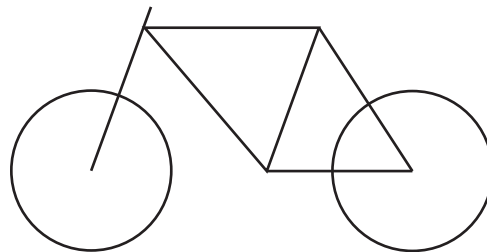

Fig. 10-2
Let’s use AutoCAD’s object snaps to create a basic drawing of the new mountain bike frame design shown in Fig. 10-2. Be sure to save your work every few minutes as you work through this chapter.
### 1. In the lower left area of the screen, draw a 22”-diameter circle to represent the front wheel, as shown in Fig. 10-2.
- Create the final segment of the bike frame, using Fig. 10-2 on page 117 as a guide.